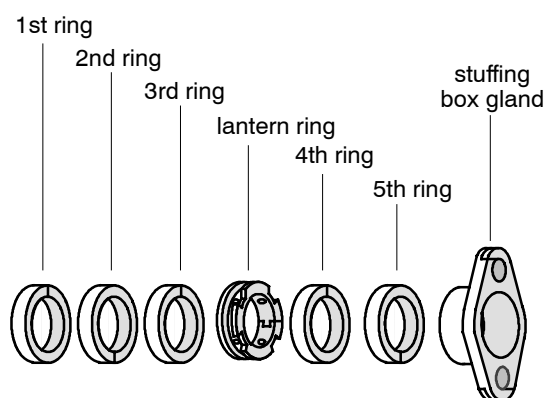

Fig. 5
- The second ring is placed against the first one so that the joints are at 180° angle to each other, Fig. 5.
- The third packing ring is placed against the second one so that the joints are at 180° angle to each other. Fig. 5.